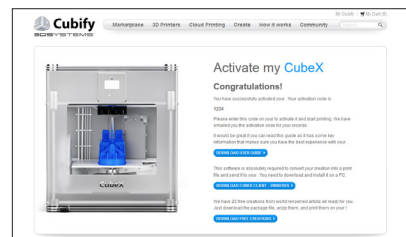

Fig. 16
- Congratulation, Your CubeX is now activated in Cubify.com. To unlock your CubeX, the four digit Activation Code that appears on the screen will be needed. (Fig. 16) Also, an email will be sent to you with your Activation Code. Click on Marketplace drop down menu and click on Free Files. Download the free creation files to your USB stick or save them on your computer.